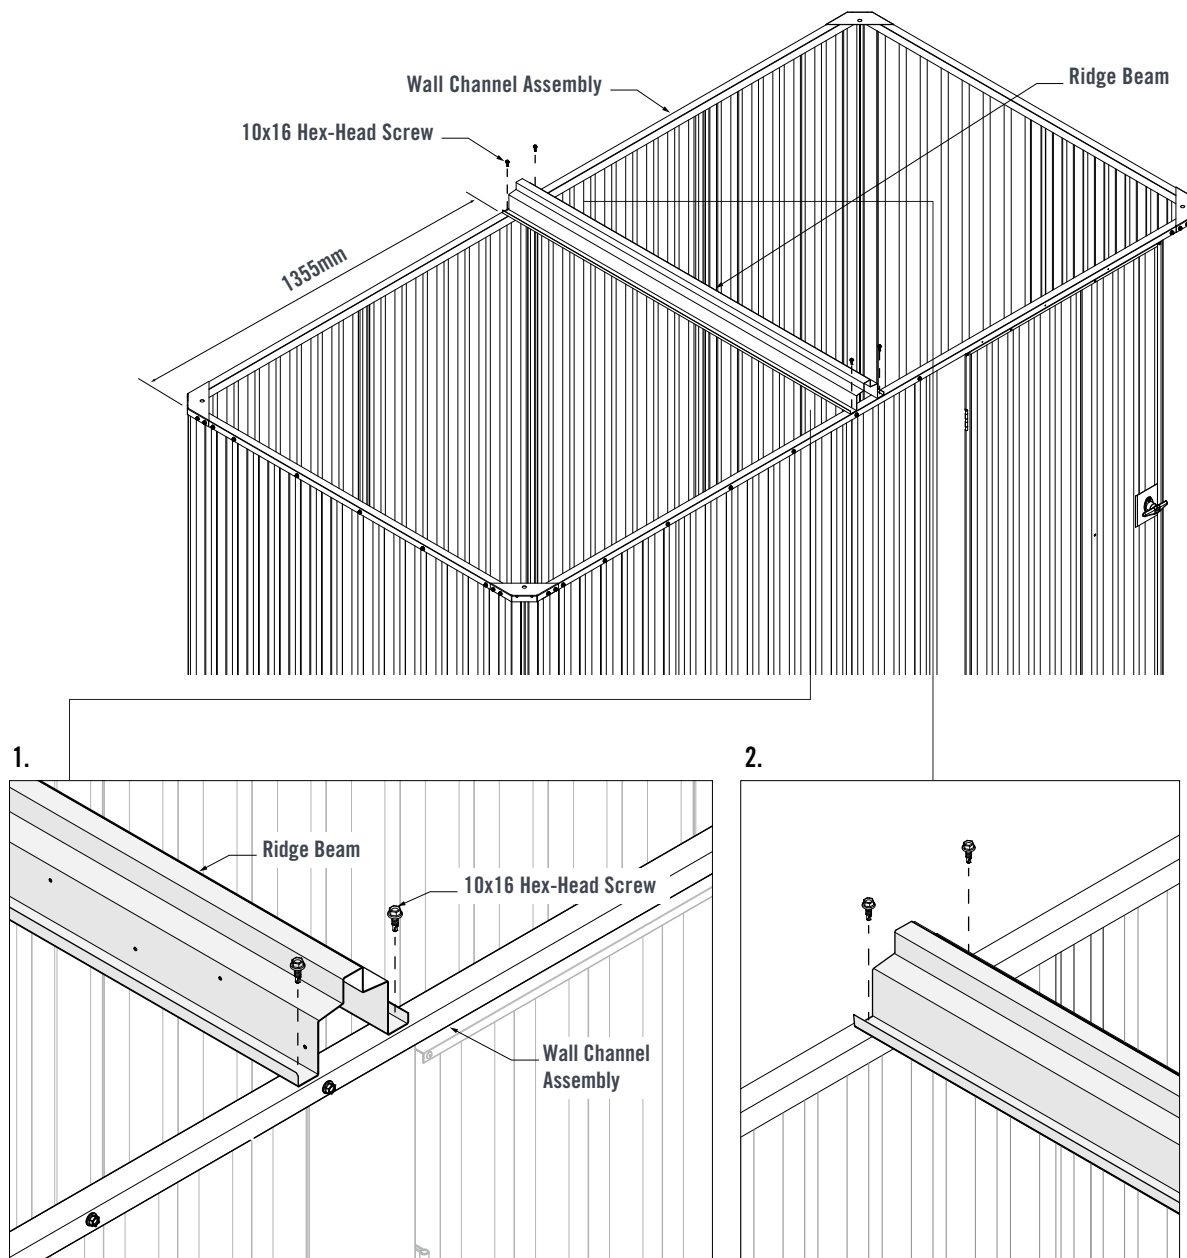

FIGURE 7.3
Fit the Ridge Beam onto the top Wall Channel Assemblies. Ensure 1355mm spacing between the edge of the shed and edge of the Ridge Beam (Figure 7.3).
1. Align the end of the Ridge Beam with the outer edge of the Wall Channel Assembly. Fasten two 10x16 Hex-Head Screws through the pilot holes in the Ridge Beam and into the Wall Channel Assembly (Figure 7.3).
2. Fasten two 10x16 Hex-Head Screws through the pilot holes in the Ridge Beam and into the rear Wall Channel Assembly (Figure 7.3).